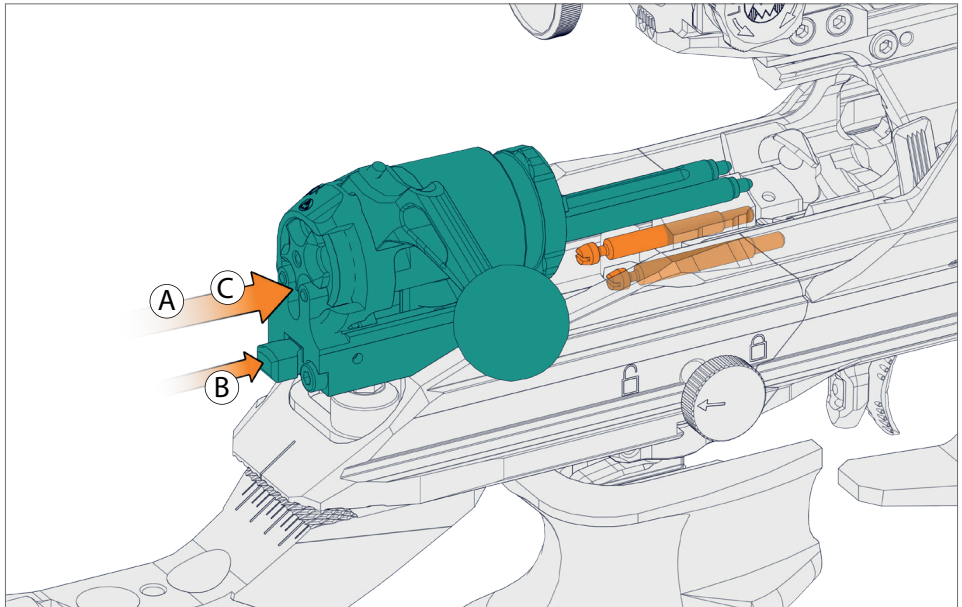

Fig. 18
- Slide the bolt and bolt guide onto the guide pins together (Step A, see Fig. 18).
- Press and hold the slider (Step B, see Fig. 18).
- Snap the latch guide into place (Step C, see Fig. 18).